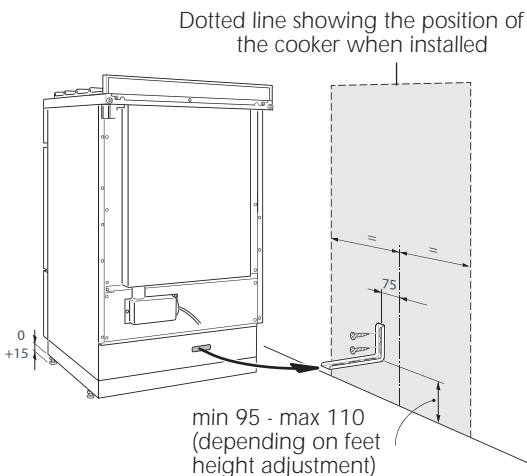

Figure 7a Fitting the anti-tilt bracket
1. After you have located where the cooker is to be positioned, mark on the wall the place where the two screws of the anti-tilt bracket have to be fitted. Please follow the indications given in Fig. 7a.
4. Move the cooker to the wall and adjust the height of the anti-tilt bracket so that it can engage in the slot on the cooker's back, as shown in Fig. 7a.